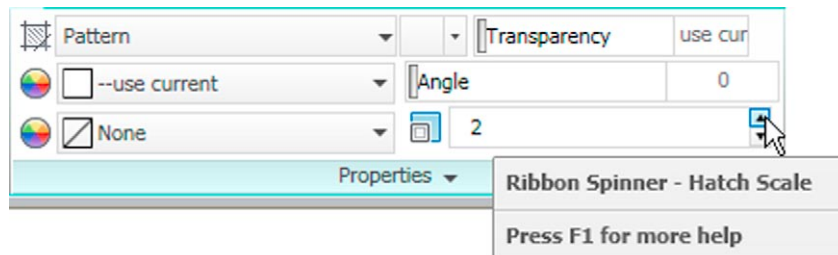

Fig. 7.14 Setting the **Hatch Scale** to 2 in the **Hatch Creation/Properties** panel
3. In the **Hatch Creation/Properties** panel adjust the **Hatch Scale** to 2 (Fig. 7.14).